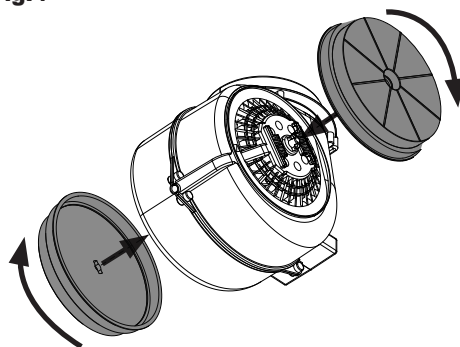

Fig.5
- Hang the cooker hood on the wall using the drill holes **A** (fig.5).